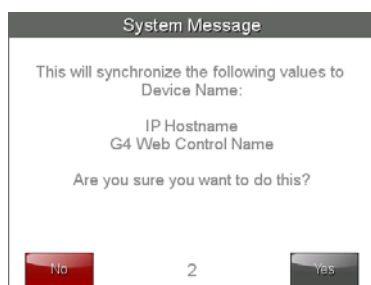

FIG. 45 System Message: This will synchronize the following values to Device Name
2. A System Message popup window appears, giving the option to synchronize multiple names to the Device Name (FIG. 45). When a five-second timer ends, the **Yes** button will be enabled.